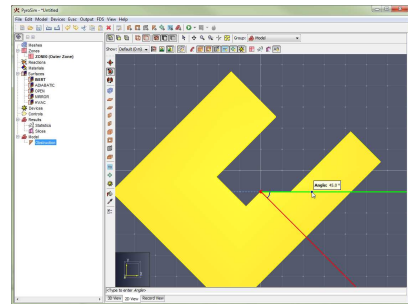

Figure 98. Define angle vector
5. Single-click a third point to define the **angle vector** from the first point to the third point (Figure 98).